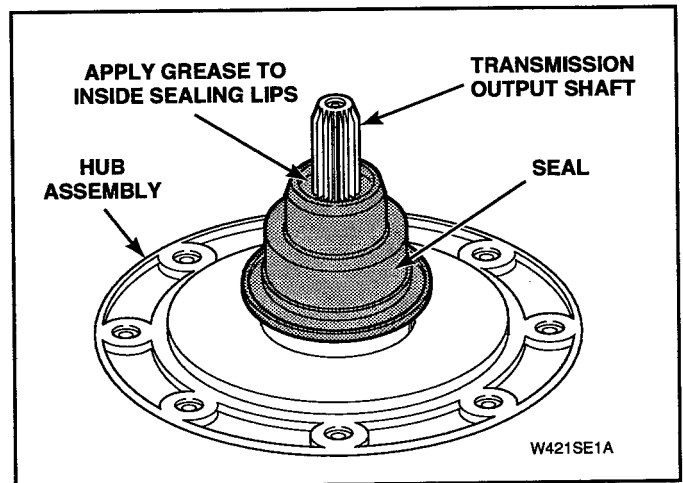

Figure 5-13
- Lubricate new seal with liquid soap or soapy water to aid in assembly of seal onto hub. See Figure 5-13.
- Apply a small amount of supplied grease, No. 36765P, to inside sealing lips of seal. See Figure 5-13.
NOTE: Top edge of front panel is held in place by two spring clips located on bottom flange of cabinet top. See Figure 5-13.